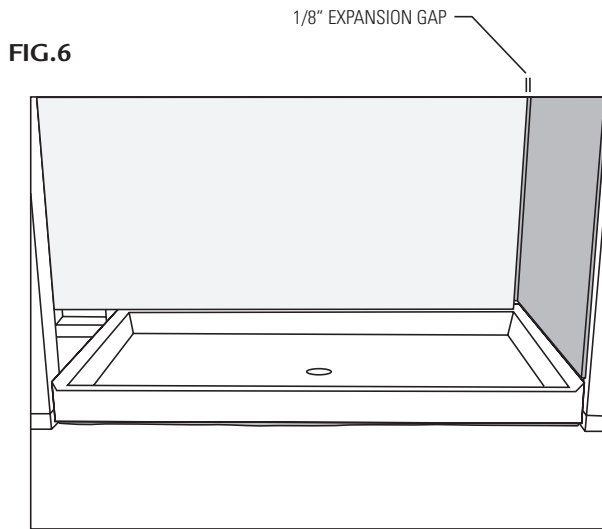

FIG.7
2. Wipe the back of the panels making sure they are clean dry and free of dirt and grease. Apply a bead of adhesive, on the wall, within 3" of the perimeter of the panel and 1 1/2" diameter portions of adhesive spaced 12" apart over the remaining field. See Figure 7.